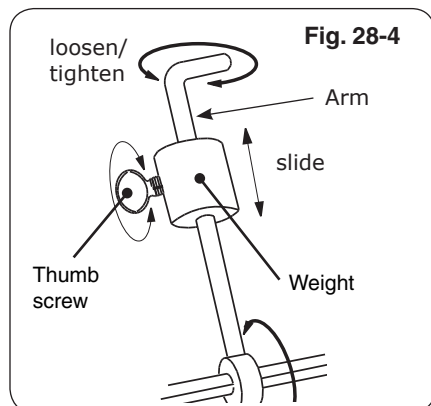

Fig. 28-4
7. Slide the counterbalance weight up or down the arm until the rod rotates most evenly then tighten thumb screw (Fig. 28-4 and Fig. 28-5).